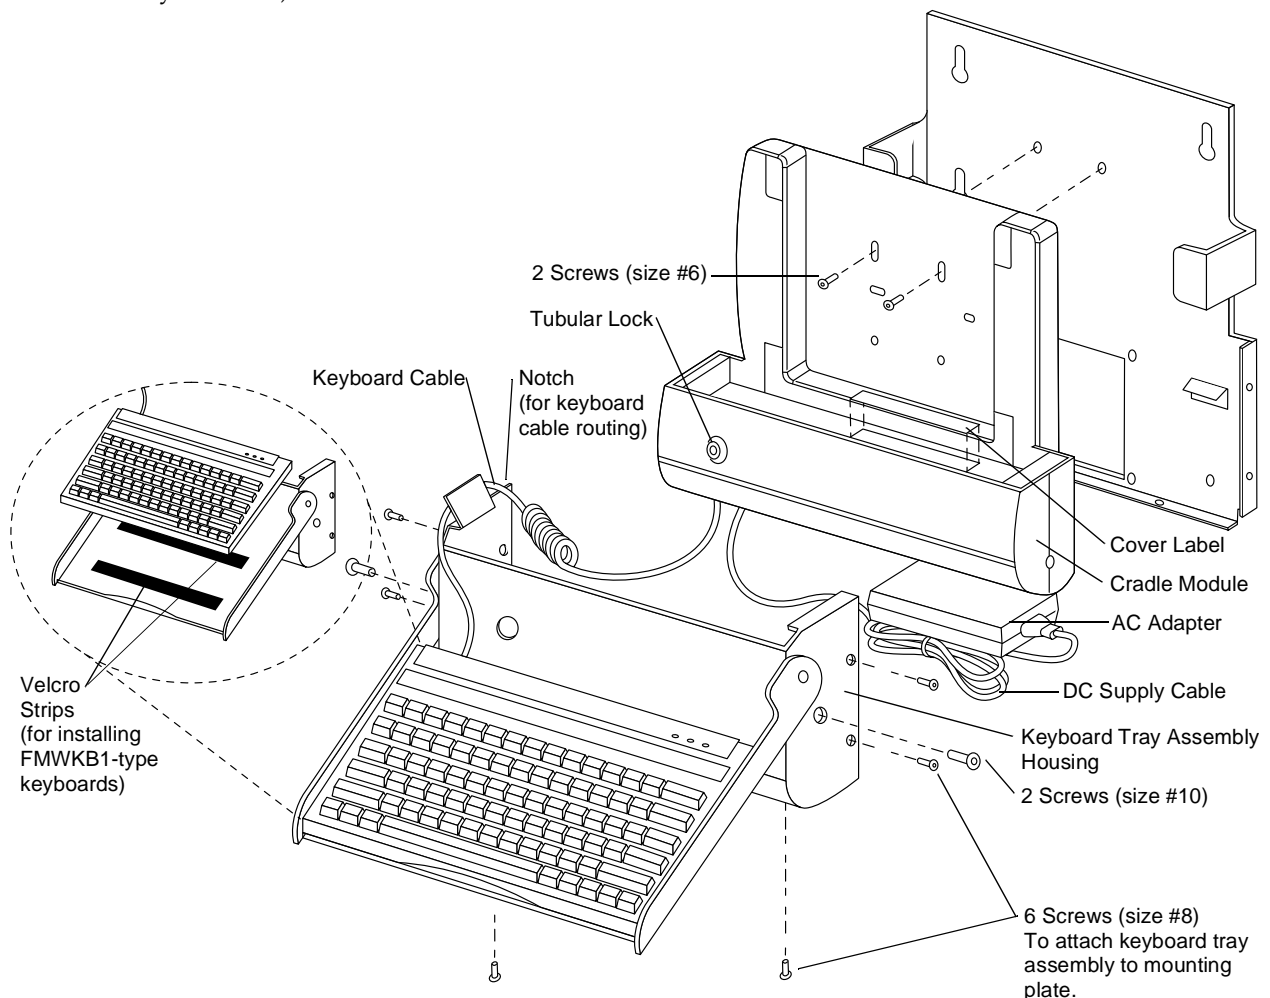

Figure 2-15. Wall-Mount Cradle Exploded View
- FMWKB1 keyboard: Remove the protective backing from the Velcro strips on the keyboard tray and place the keyboard on the tray in the desired position as shown in Figure 2-15 on page 2-23.
7. Route the keyboard cable through the notch on the left side of the keyboard tray assembly as shown in Figure 2-15.
9. Attach the cradle module to the keyboard tray assembly by installing the two (size #10) screws provided with the wall-mount base in the side of the keyboard tray assembly as shown in Figure 2-15. To allow alignment of other components, *do not tighten these screws at this time*. Note that the tubular lock on the cradle module (if so equipped) fits through the hole in the front of the keyboard tray assembly. (Ensure that the rubber feet and wire catch, supplied with the cradle module, are not installed on the cradle module.) Store the excess keyboard cable in the keyboard tray assembly housing. Pull the keyboard cable tight on the outside of the keyboard tray assembly to ensure that the keyboard cable will not be pinched by the keyboard tray when it is folded to the closed position. (Apply some duct tape to secure the keyboard cable to the inside of the keyboard tray assembly while you work.)
12. Attach the keyboard tray assembly to the mounting plate as shown in Figure 2-16, Figure 2-17, and Figure 2-18. Use the six screws (size # 8) provided with the wall-mount cradle. (Figure 2-15 on page 2-23 also shows the location of these screws.) Ensure that the cables are not pinched between the keyboard tray assembly and the cradle plate. (Note that the flanges on the mounting plate must go *inside* the keyboard tray assembly housing.)
13. Fasten the cradle module to the mounting plate using the two (size #6) screws provided with the wall-mount cradle, shown in Figure 2-15 on page 2-23. To ensure proper alignment of the cradle module, push the cradle module toward the wall while you tighten the screws.
15. Apply the cover label provided with the cradle module to the inside of the cradle module as shown in Figure 2-15 on page 2-23. (This label covers access holes in the cradle module that are not used in this assembly.)